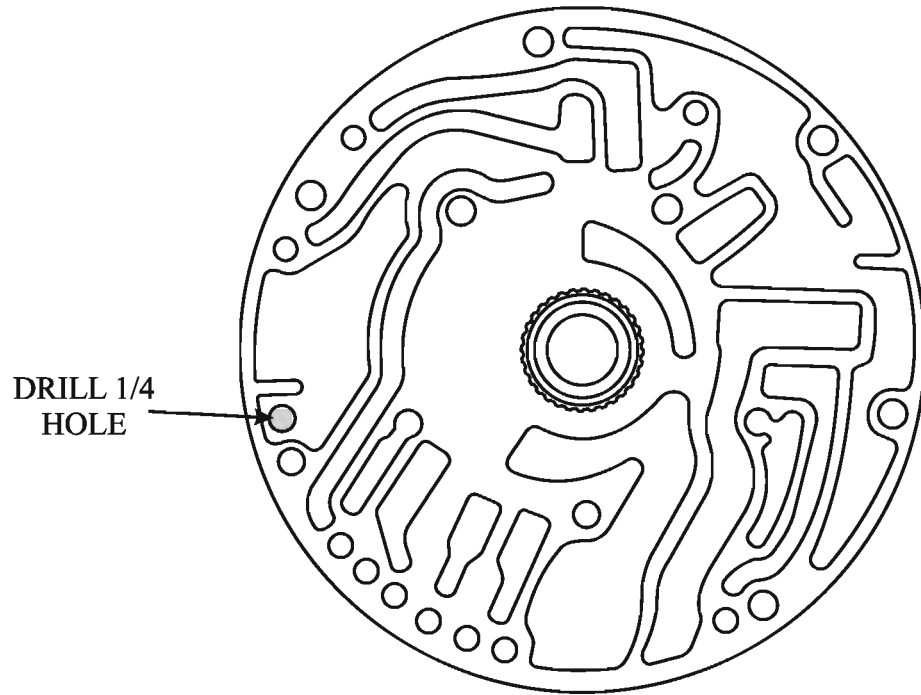

Figure 80
- 2 - Drill 1/4" hole in drain back area, *as shown in figure 80.*